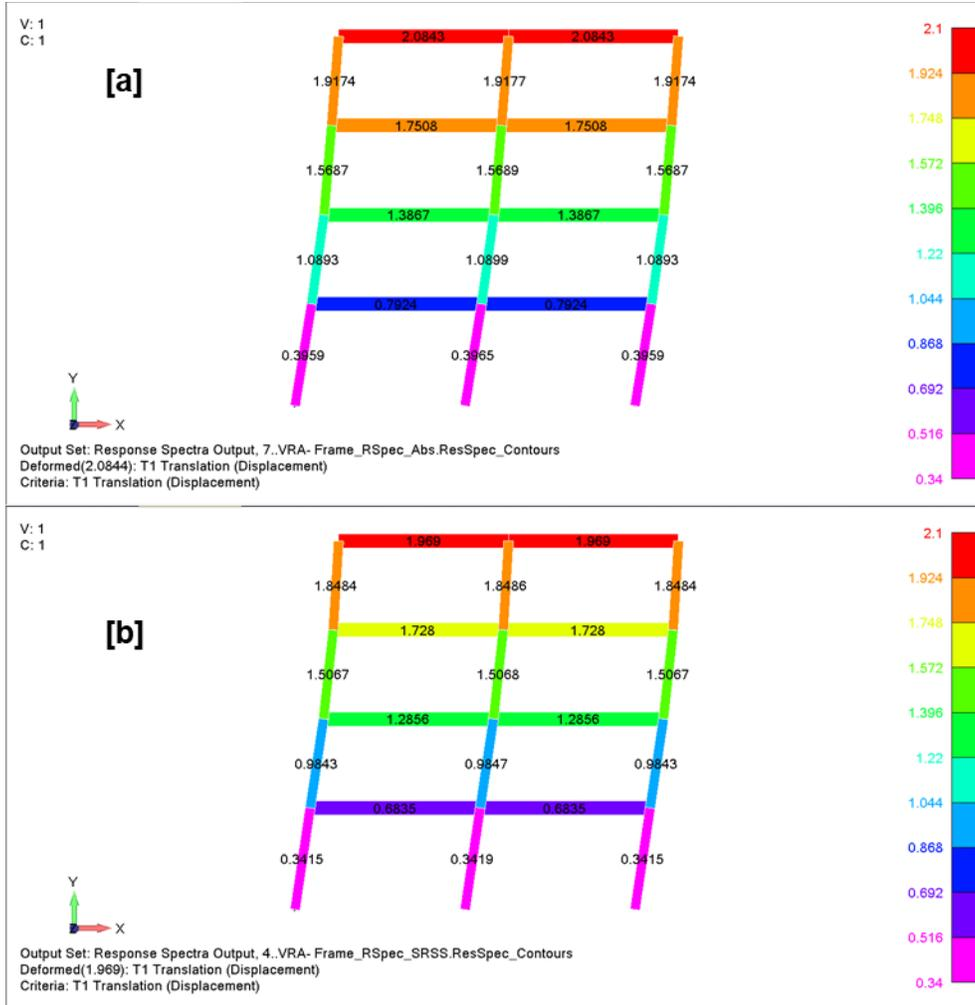
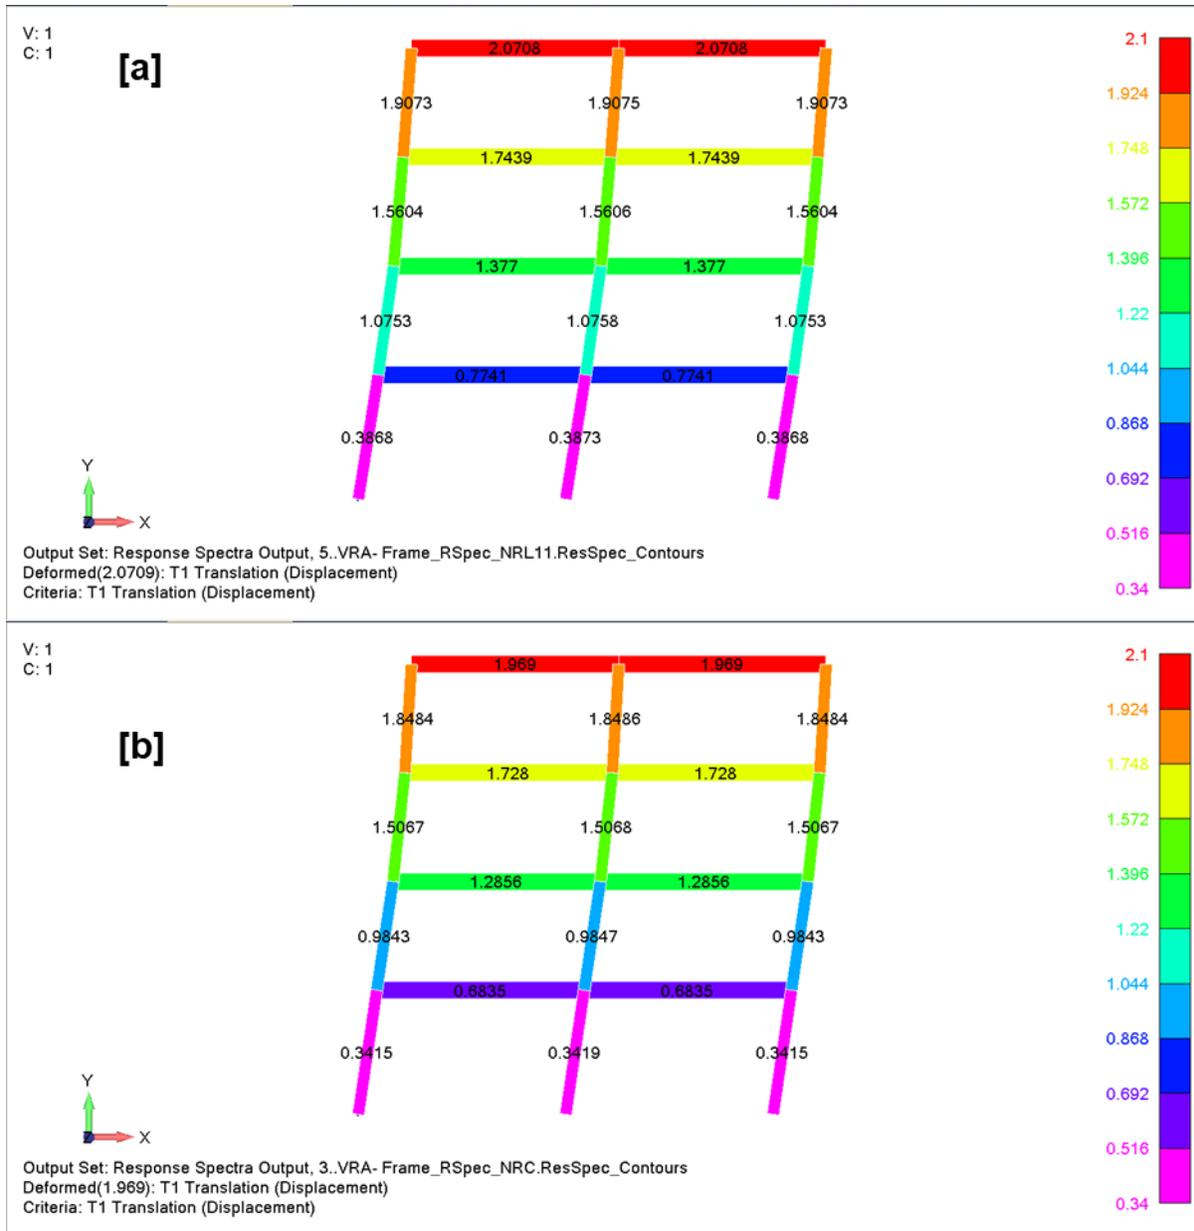
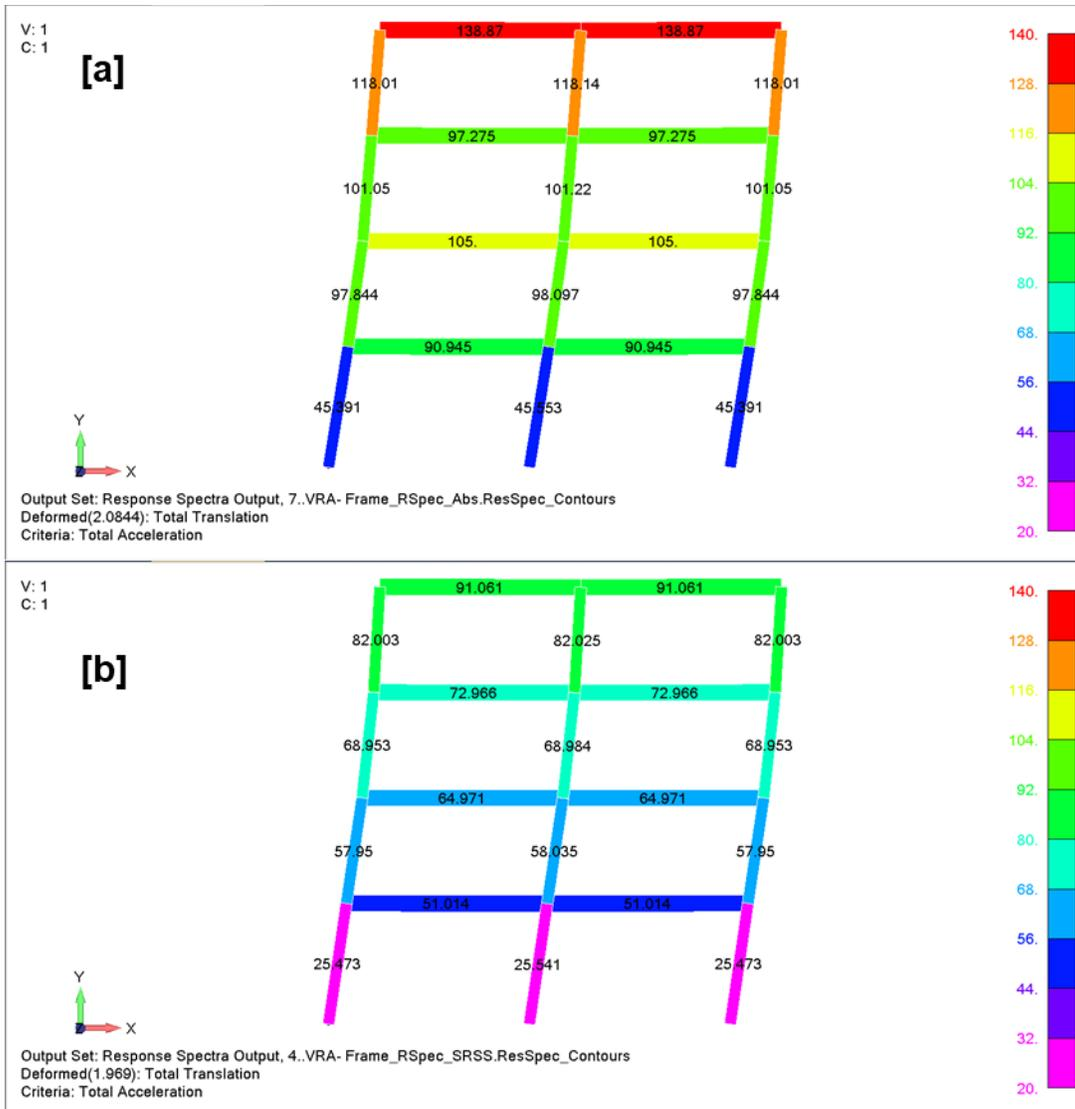
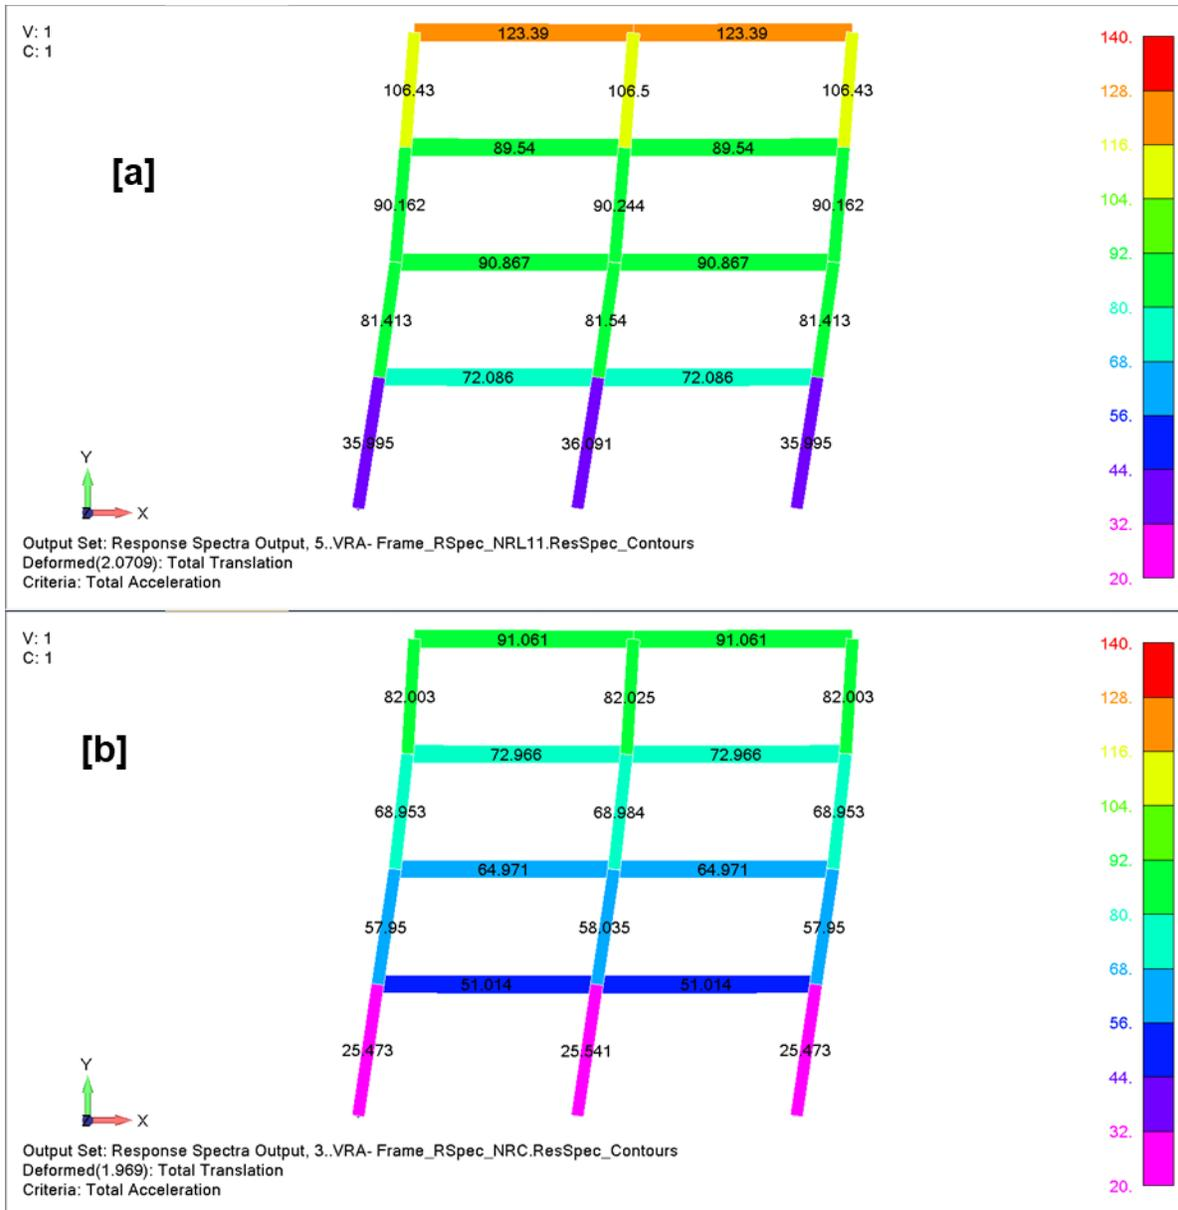

Figure 4-86. Displacements for [a] absolute value and [b] SRSS methods.
Figure 4-87. Displacements for [a] NRL and [b] NRC methods.
Figure 4-88. Accelerations for [a] absolute value and [b] SRSS methods.
Figure 4-89. Accelerations for [a] NRL and [b] NRC methods
- The displacement results are shown in Figure 4-86 and Figure 4-87. For all of the displacement plots, the color bar has been set to 10 intervals with the range from 0.34 to 2.1 inches. The acceleration results are in Figure 4-88 and Figure 4-89. The color bar range in these plots is from 20 to 140 in/s2.